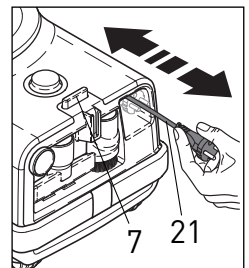

Figure 3
1. With the canister On/Off button (6) in the OFF position, and the power control button (2) on the handle grip (1) in the OFF (-) position, grasp the plug and pull the power cord (21) out from the power cable recess (figure 3). The power cord (21) should be unwound from the cable reel at least two thirds of its length. **Note:** do not over-extend the cord.
3. Press the canister On/Off button on the base of the canister (6) gently with your foot or hand. The blue light around the button (8) will blink right and left indicating that the power is on. Your SEBO AIRBELT D4 has a soft-start system for longer component life. This may delay starting slightly.